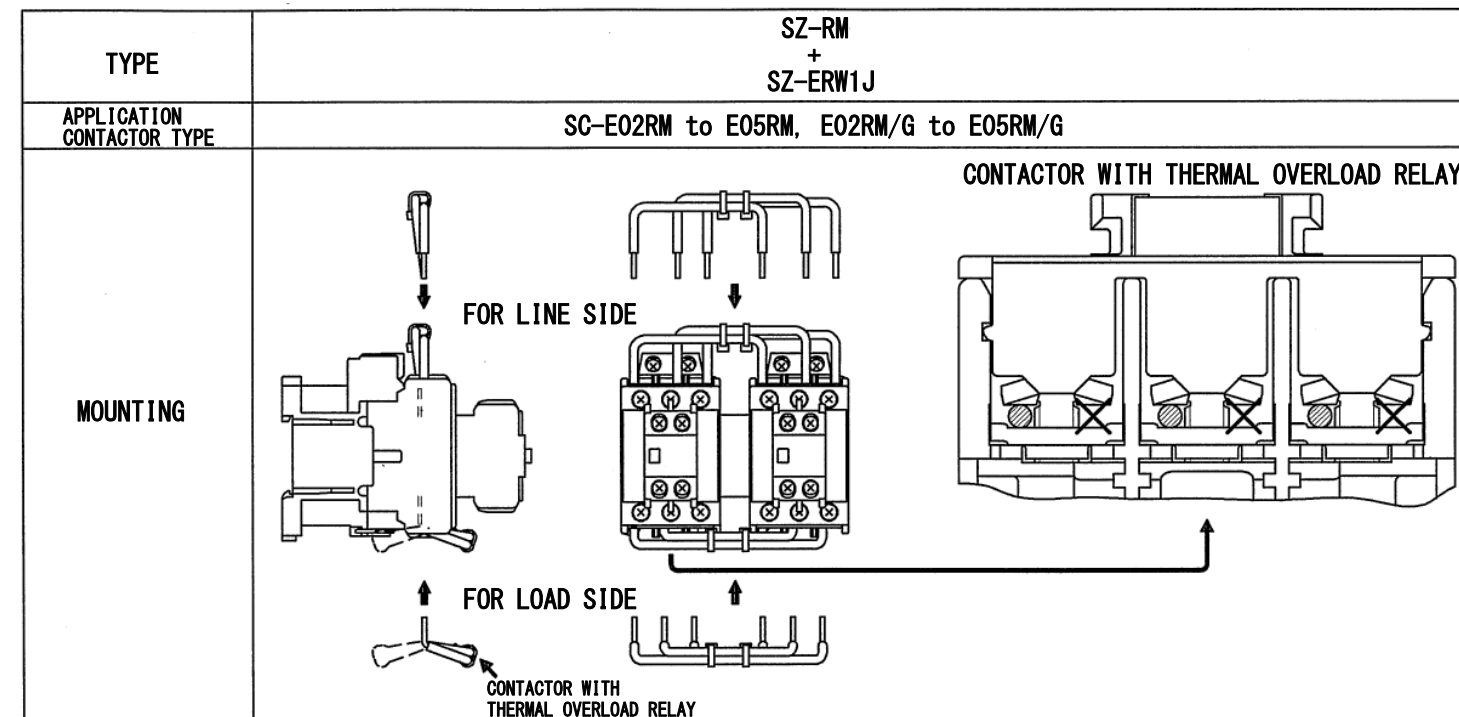

Fig. 2
2.2 Power Connection Kit for Reversing (Fig.2)
- (4) In case of using load side part of “SZ-ERW1J” with thermal overload relay, insert and connect this part to the **left** side of the terminal screw after turning tied band side to the direction of **front** side of the contactor. In case of without thermal overload relay, it is also available turning tied band side to the direction of **back** side of the contactor and connecting to the **right** side of the terminal screw. (Fig.2)